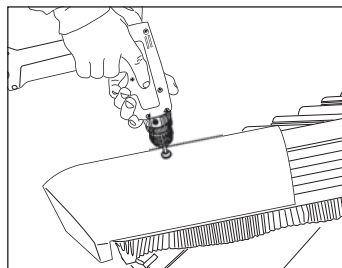

Fig. 10 – Fixing Block End Hip tile
- 9 Fit a purpose designed Block End Hip tile tight against eaves tiles and trim the Block End if required. Fix Block End Hip tile through HipFast Hip Support Tray to hip batten using 75mm x 4.8mm screw and sealing washer provided. Tighten securely to ensure a firm seal (Fig. 10).